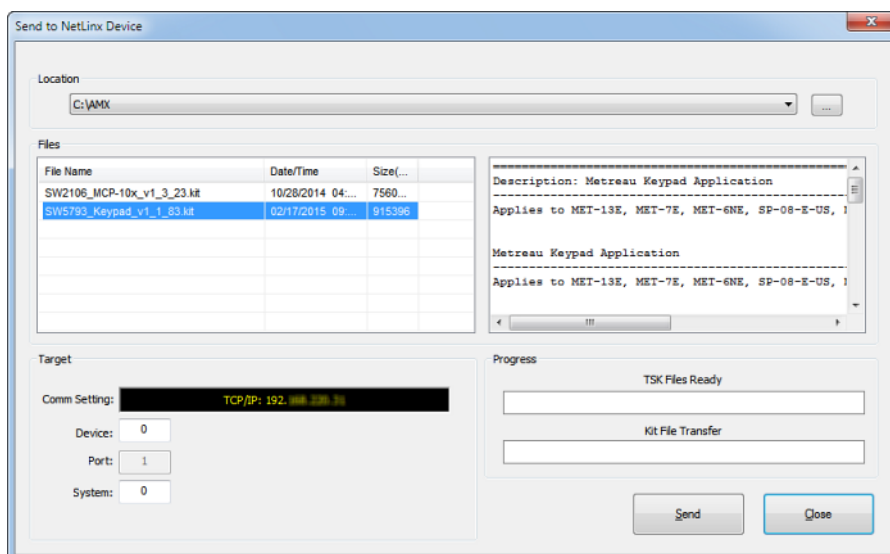

FIG. 14 Send to NetLinX Device dialog
5. Click the *Browse* button (...) to locate and select the firmware (*.kit) file that will be transferred, in the *Browse for Folders* dialog (FIG. 14):